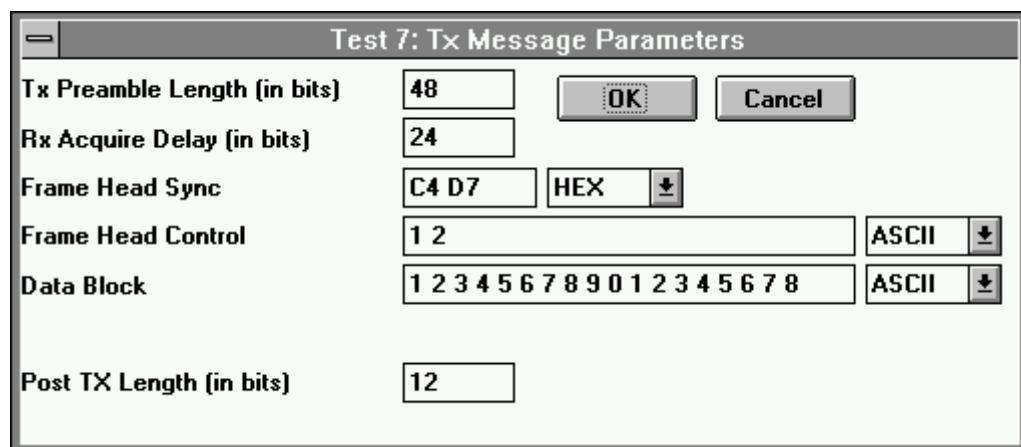

Figure 25: CMX909B (and FX909A) Test 7 Tx Message Control
1. Click on the **GO** button in the main window. A Message Parameters window is displayed (see Figures 25 to 30).